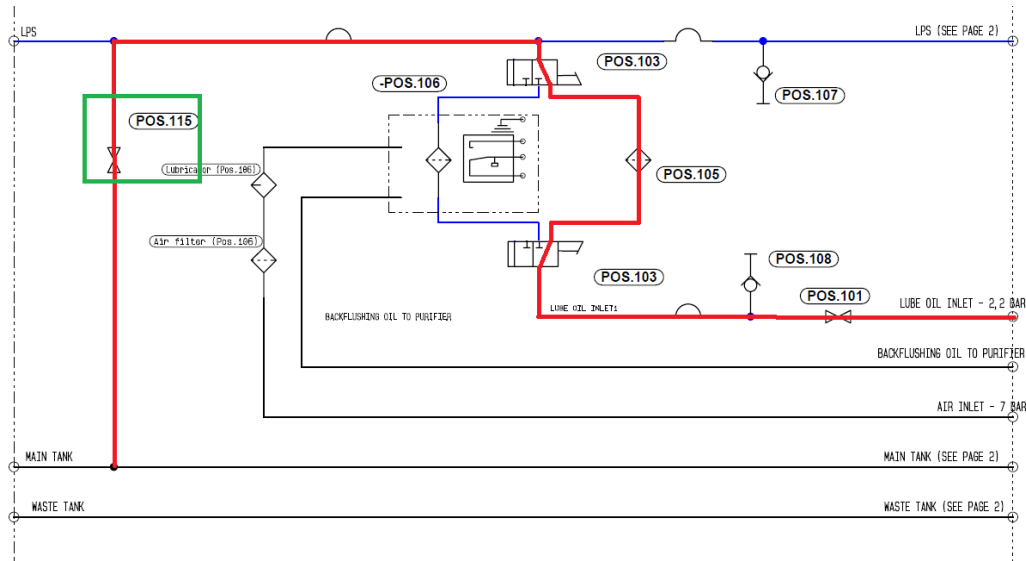

Figure 3 – Hydraulic diagram for ME/ME-C engine.
- Open flushing valve Pos.115 – (see Figure 3, green square. The red line will show the flow)